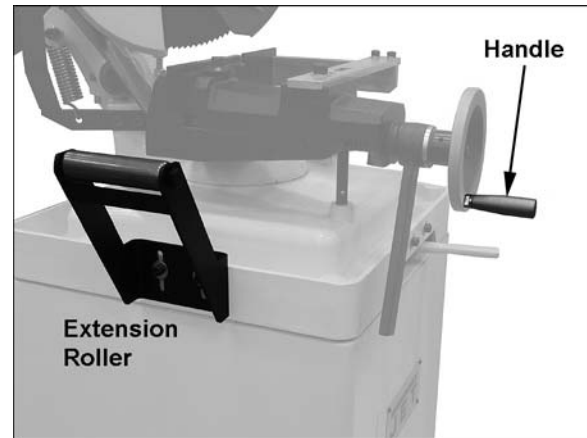

Figure 4
1. Remove the hex nut and screw from the hole at the front of the saw head (Figure 4). These fasteners will not be used again unless the machine needs to be transported in the future.
Refer to Figure 4.